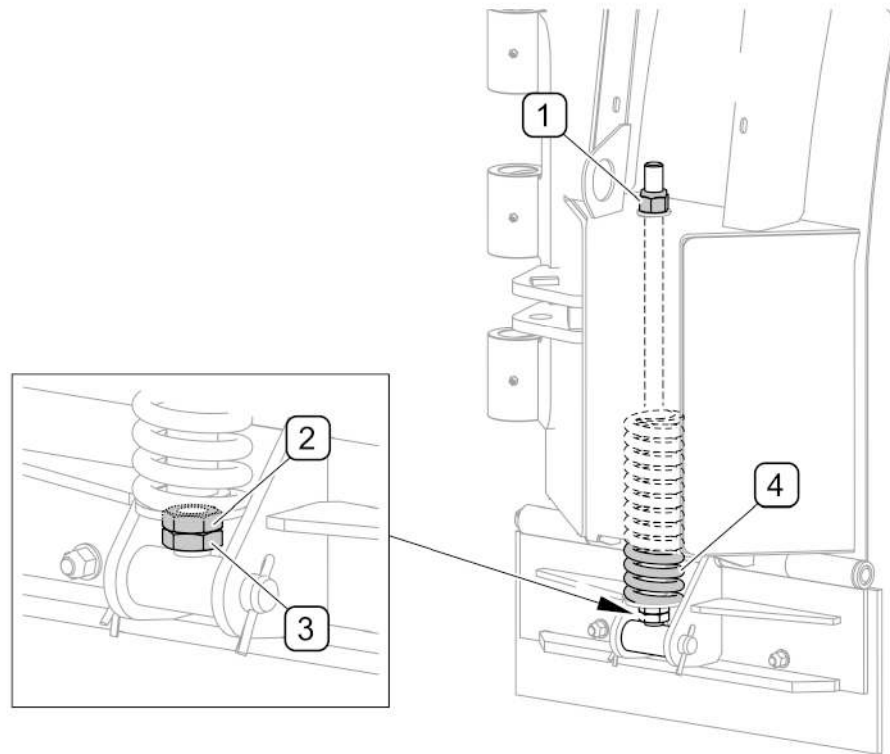

FIG. 5.3 Adjustment of collecting blades
Scraper-blade PUU-3700 is equipped with swinging segments of collecting blades. When an obstacle is encountered, individual segments of collecting blades (FIG. 5.3) can independently swing backward and return to working position thanks to shock absorbing springs. Inclination of blades and tension of springs can be adjusted. Blade segment inclination angle is adjusted using nut (1) while spring (4) tension can be adjusted using nut (2) after loosening counter nut (3).